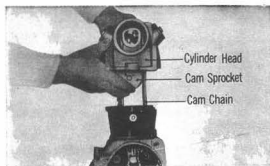

Fig. 29
- When installing the cylinder head, the cam sprocket must be contained within the cylinder head (Fig. 29).